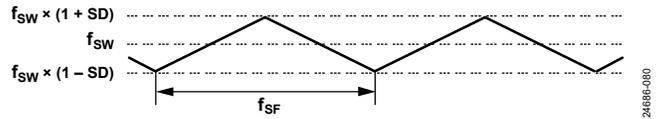

Figure 80. Triangular Spreading
The ADP5140 integrates a triangular frequency spread architecture to reduce system EMI, as shown in Figure 80. The frequency spread spectrum function can be enabled or disabled through the `SP_EN` bit in the `FREQ_CONFIG` register. The `SP_EN` bit is disabled by default. The sweep frequency (f_{SF}) and sweep depth (SD) can be programmed through the SPI register, `FREQ_CONFIG`, as shown in Table 19 and Table 20.